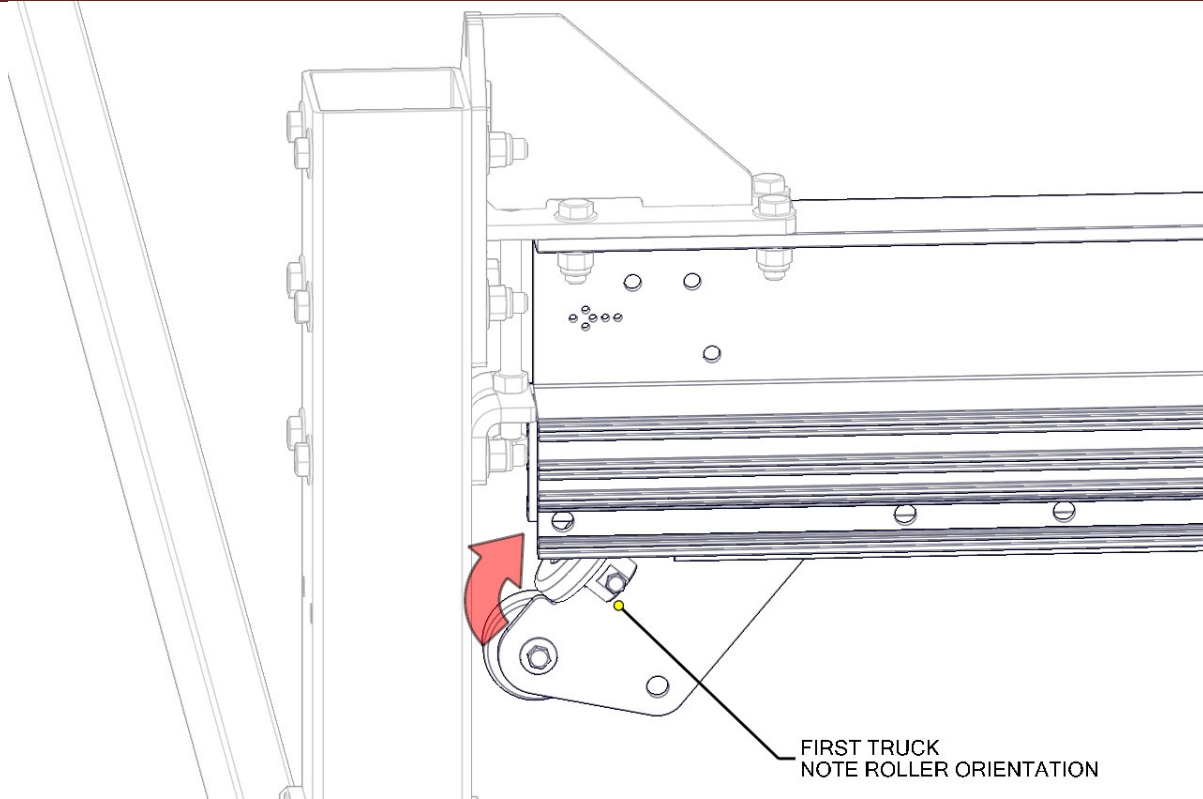

Figure 39 - Install the First Truck
- Install the first truck by pivoting it into the end of the rail as shown in Figure 39.